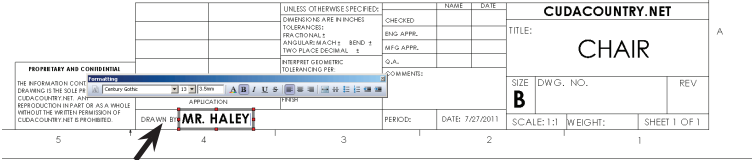

Fig. 13
Step 3. Click just to the right of **DRAWN BY**., **Fig. 13**.